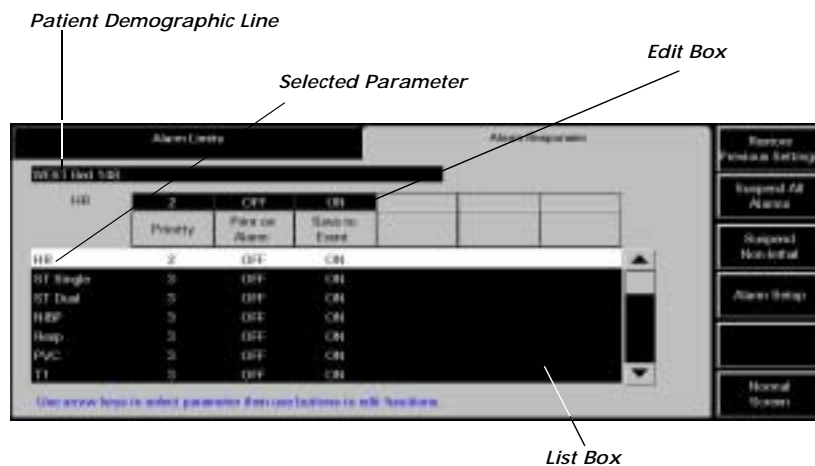

FIGURE 6-3 Alarm Responses Tab
The **Alarm Responses** tab (FIGURE 6-3) adjusts the responses of alarms at the Panorama Central Station during an alarm condition.
2. Select the **Alarm Responses** tab (FIGURE 6-3). The **Alarm Responses** tab is displayed.